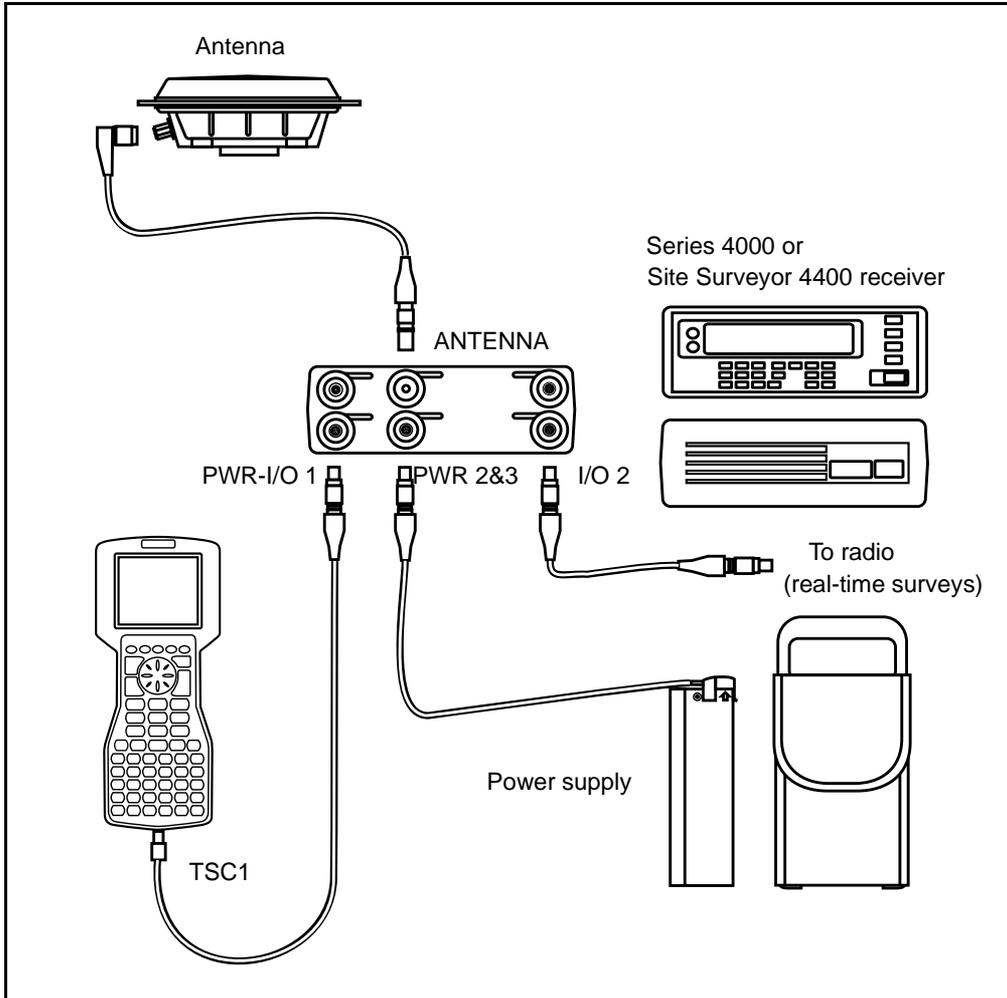

Figure D.1 Real-time or postprocessed configuration using a Series 4000 or Site Surveyor 4400 receiver
To set up a base receiver for a real-time survey using a Trimble Series 4000 or Site Surveyor 4400 receiver, see Figure D.1. Then do the following:
Figure D.1 shows a receiver setup for a real-time or postprocessed survey using a Trimble Series 4000 or Site Surveyor 4400 receiver.
To set up a base receiver for a postprocessed (PP) survey using a Trimble Series 4000 or Site Surveyor 4400 receiver, see Figure D.1 on page 604. Then do the following:
To set up a rover receiver for a real-time survey using a Trimble Series 4000 or Site Surveyor 4400 receiver, see Figure D.1 on page 604. Then do the following:
To set up a rover receiver for a postprocessed survey using a Trimble Series 4000 or Site Surveyor 4400 receiver, see Figure D.1 on page 604. Then do the following: